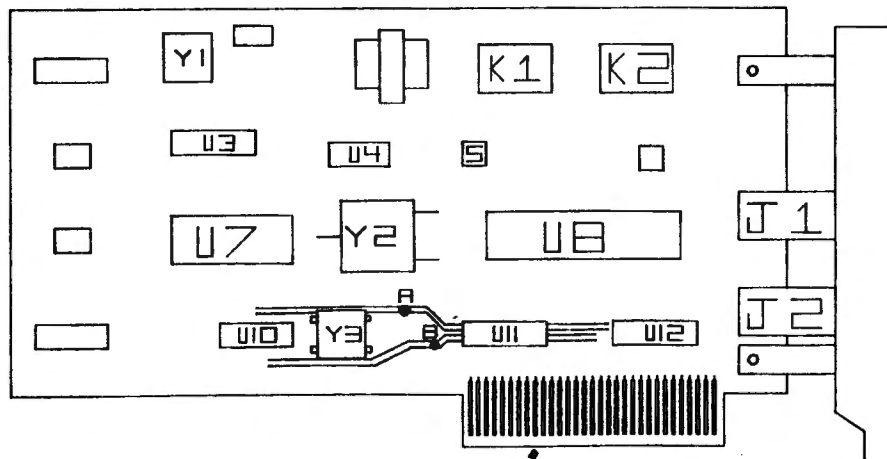

Figure 1
- 1.) Install a 33ufd tantalum capacitor across the +5V line on the component side of the modem board with the negative lead at the feedthrough indicated by point A and the positive lead at point B (see figure 1).